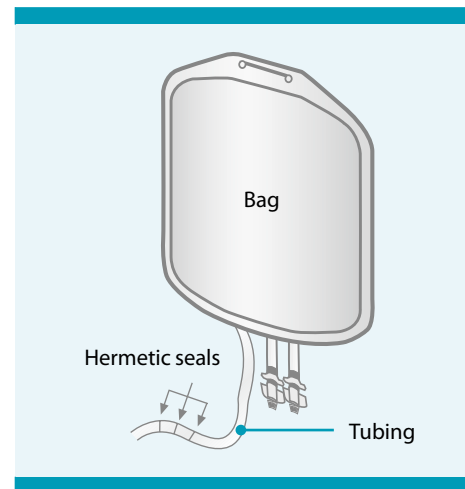

Figure 6.2: Sealing a bag
6. Seal off the tubing and separate the bags, leaving at least 15 cm of tubing on the Cell Preparation Bag No. 1 for further connections (see Figure 6.2). Use the heat sealer to produce three adjacent seals in the tubing. Make sure the seals are thoroughly established. Sever at the center seal. Keep the bag which contained the cellular starting product until the separation and final analysis of all cells have been accomplished.